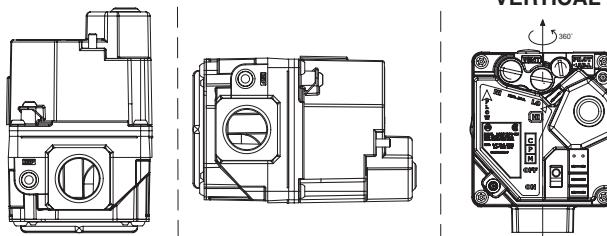

Figure 1. Gas valve mounting positions
3. This valve may be installed upright, + or - 90° from upright, or vertical (refer to figure 1). The arrows on the valve identification label and on the bottom plate indicate direction of gas flow through the valve